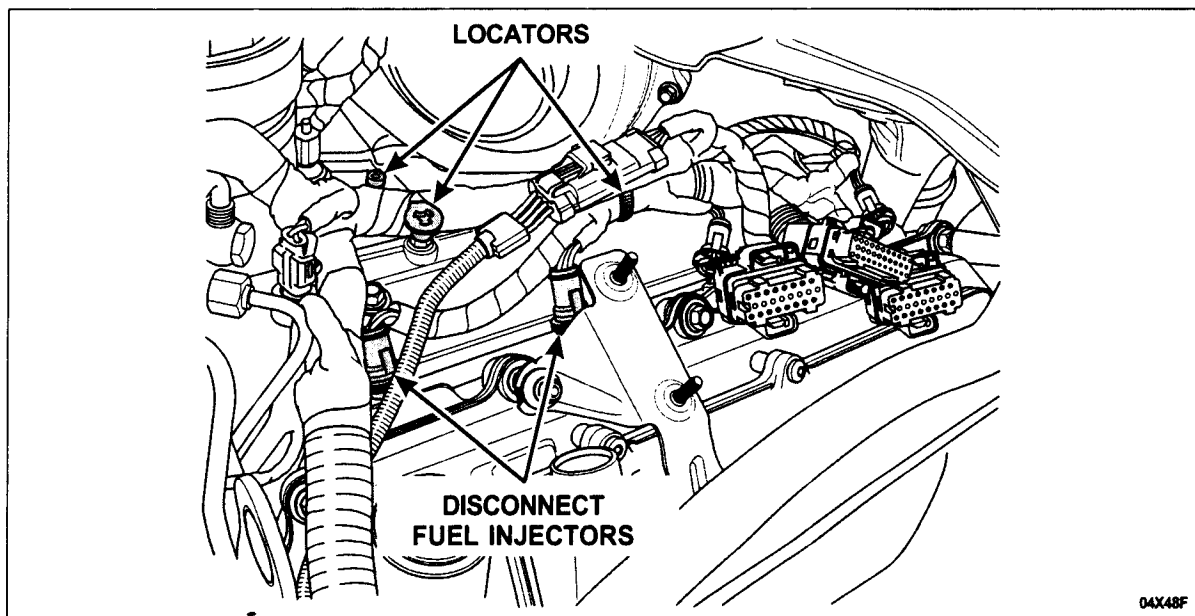

FIGURE 6
2. Disconnect the remaining two (2) fuel injectors on the driver side along with three (3) wire harness locators (two [2] located along the fuel injector manifold assembly and one located under the turbocharger). See Figure 6.